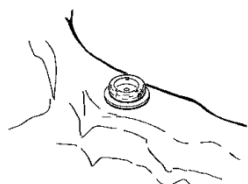

Fig. C1
2. Place a White Block-Out Spacer over the head of each LOCATOR® Abutment. (Fig. C1) The spacer is used to block out the area immediately surrounding the abutment. The space created will allow the full resilient function of the pivoting metal denture cap over the LOCATOR® Black Processing Replacement Male.